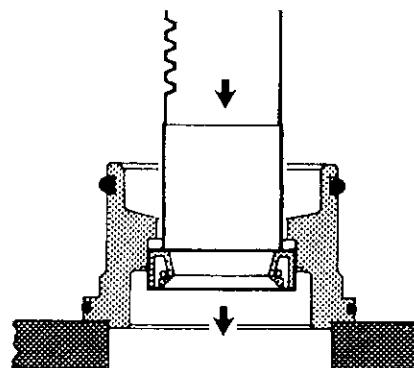

Figure 3.11
18. Support bearing retainer and press out the drive shaft seal (11). See Figure 3.11.